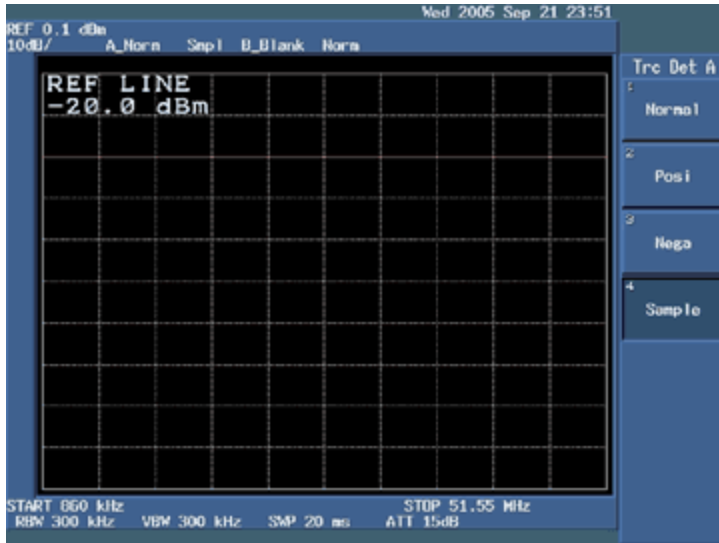

Figure 6. Selecting the Sample method to display the current signal trace.
3. Press soft key #5 (**Detector**) and select the desired signal trace detection method (Normal, Posi, Negi, or Sample). **Normal** displays both positive and negative peak values. **Posi** displays positive peak values. **Negi** displays negative peak values. **Sample** displays the current signal trace. To measure return loss, use soft key #4 (**Sample**) method as shown in **Figure 6**. Press the **RETURN** key.